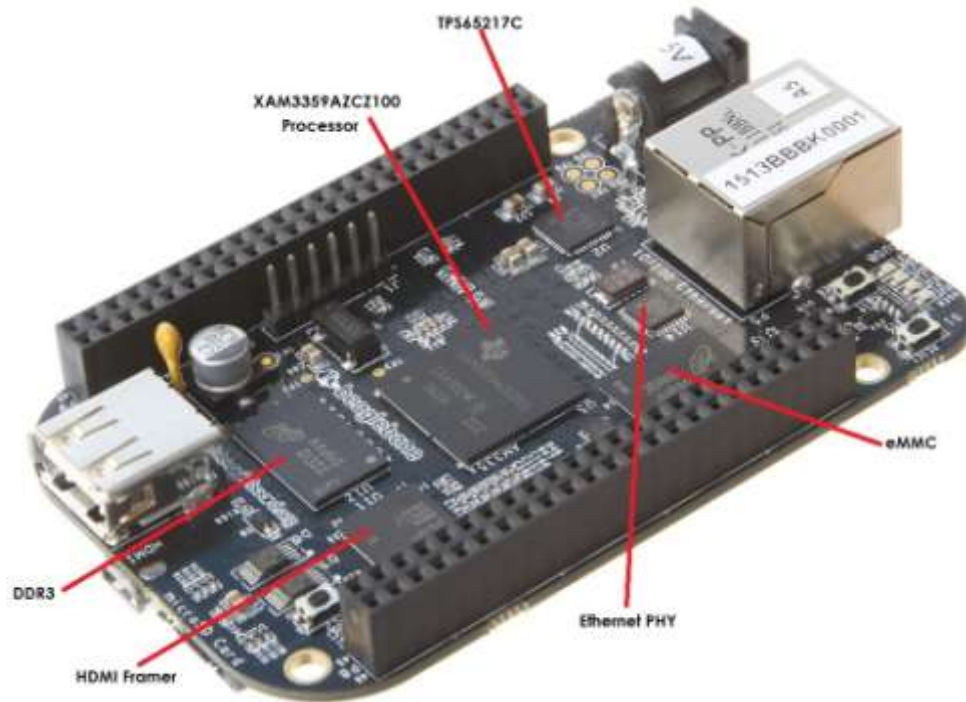

**Figure 17. Connectors, LEDs and Switches**
**Figure 17** below shows the locations of the connectors, LEDs, and switches on the PCB layout of the board.